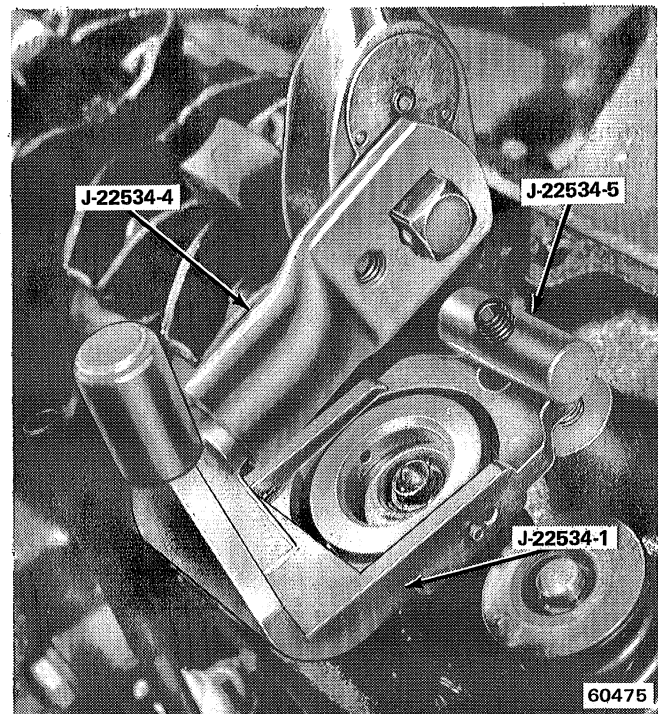

Fig. 1B-109 Valve Spring Removal
(6) Connect air hose to adapter and maintain at least 90 psi (620 kPa) in cylinder to hold valves against their seats.
(7) Use Valve Spring Remover and Installer Tools J-22534-1, J-22534-4, and J-22534-5 to compress valve spring. Remove valve locks (fig. 1B-109).